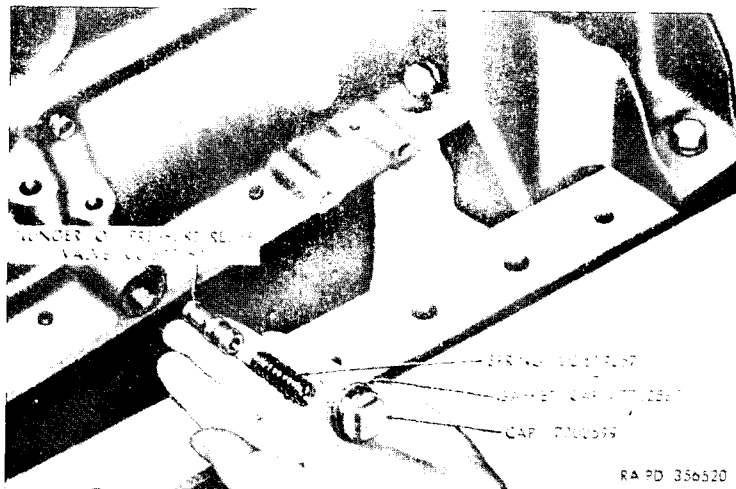

Figure 28. Removing oil pressure relief valve.
- (2) Remove the oil level bayonet type gage, with cap assembly.
- (3) Unscrew oil level gage pipe and remove from cylinder block.
- f. Oil Pressure Relief Valve (fig. 28).*
- (1) Remove cap and cap gasket.
- (2) Remove spring and oil pressure relief valve plunger.